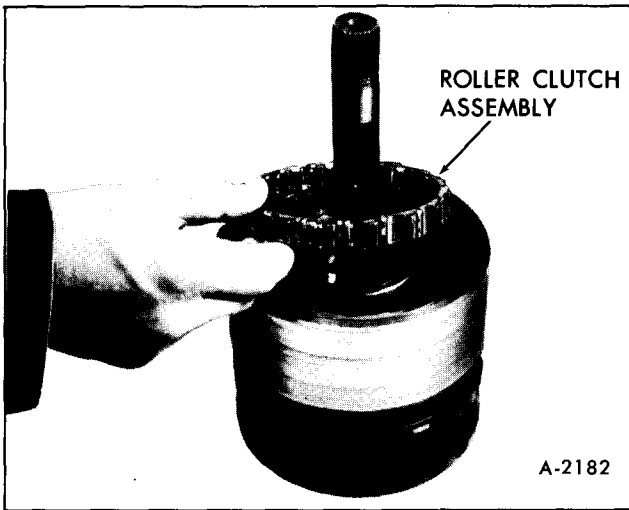

Figure 59—Roller Clutch Installation
16. Install roller clutch assembly in reaction carrier, Figure 59.